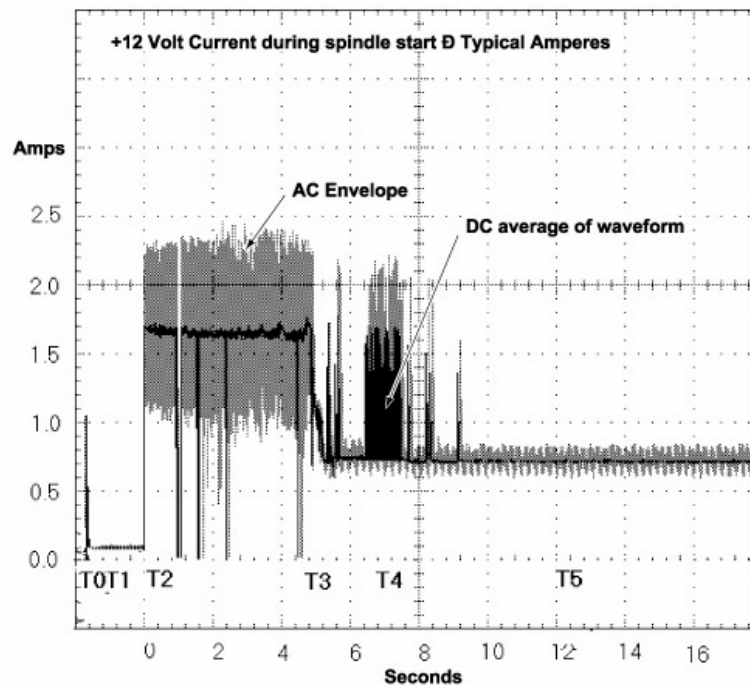

Figure 2. Typical ST373453FC drive +12V current profile
- [3] See +12V current profile in Figure 2.